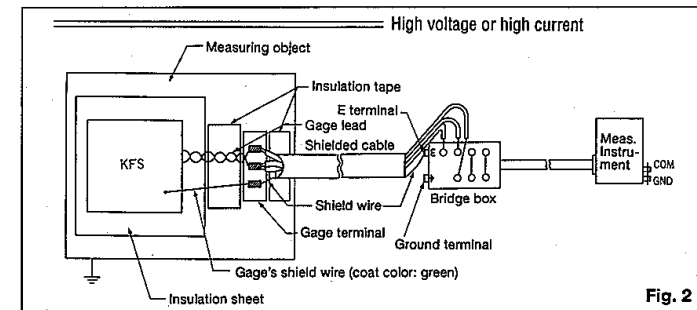

Fig. 2
- (1) Perform the same connection as in the above 4.1 item except grounding of the measuring system.
- (2) Ground the measuring system as illustrated by Fig.2 or 3.
- (3) About whether or not the COM terminal and the GND terminal on the measuring instrument should be short-circuited, check in advance to see if short-circuiting leads to lesser noise, then decide on it.